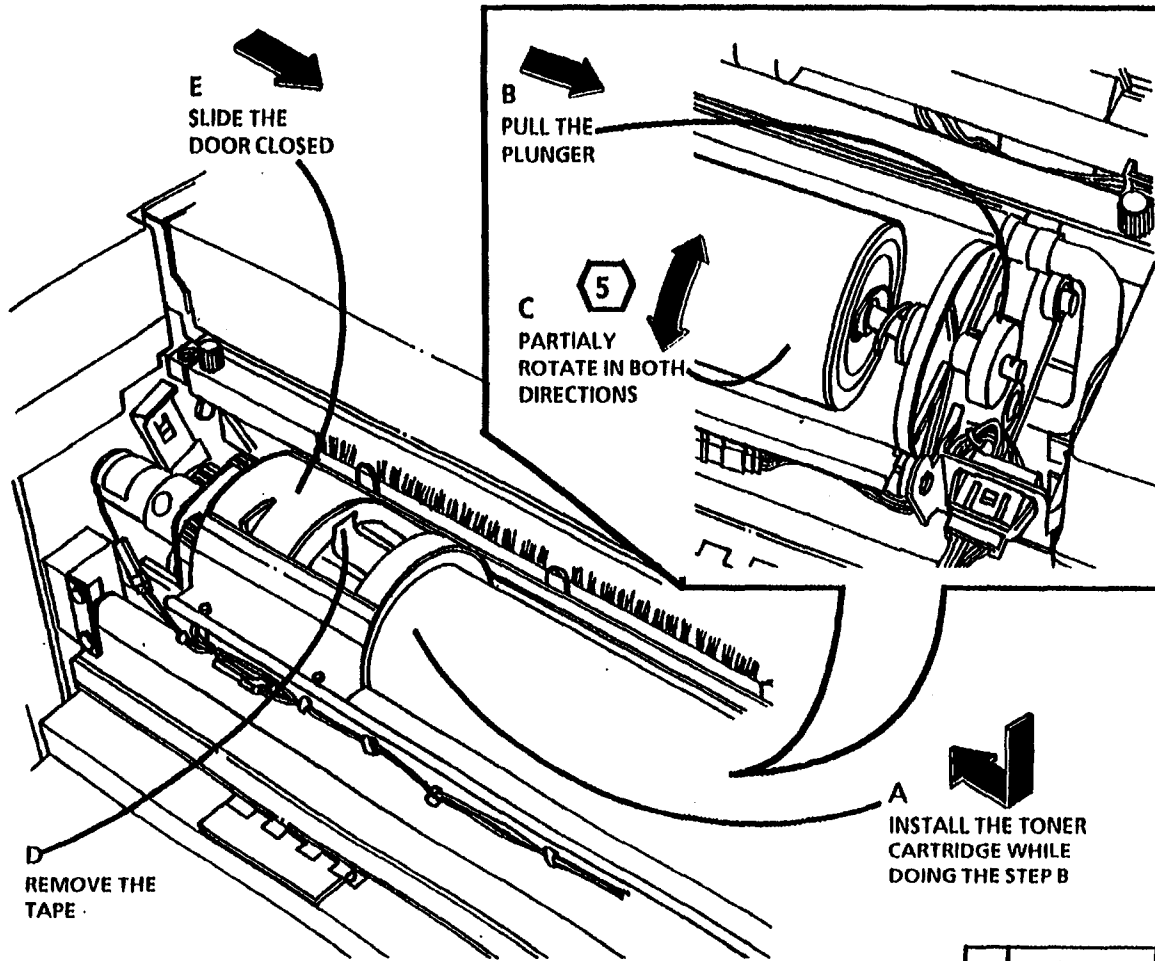

Figure 5. Reinstall the Toner Cartridge
2. (Figure 5): Reinstall the Toner Cartridge.